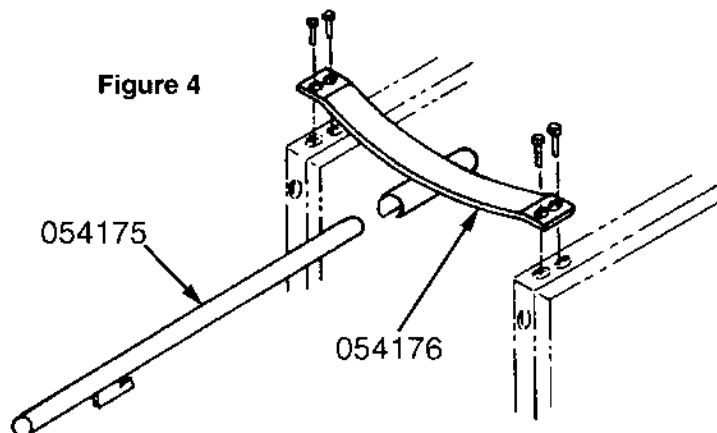

Figure 4
- (1) Bolt slotted saddle (#054176) to 4 holes in the top of both side frames (#054178). This is used to operate and store tilting bar (#054175). See Figure 4. Proceed to next step.
- (2) Return cradle to proper position. Tighten all bolts. (Note: extra bolts are supplied with kit). Store drum hook (#054175) in slotted tube under saddle (CW-10 Only). See Figure 4. Assembly is now complete.
- (2) Return cradle to proper position. Tighten all bolts. (Note: extra bolts are supplied with kit). Store drum hook (#054175) in slotted tube under saddle. See Figure 4. Assembly is now complete.
- (2) Assemble casters (#108447) to mounting plate (#054180) as shown with carriage bolts and Kep nuts. Bolt completed assembly to frame as shown.
- (3) Return cradle to proper position. Tighten all bolts. (Note: extra bolts are supplied with kit). Store drum hook (#054175) in slotted tube under saddle. See Figure 4. Assembly is now complete.